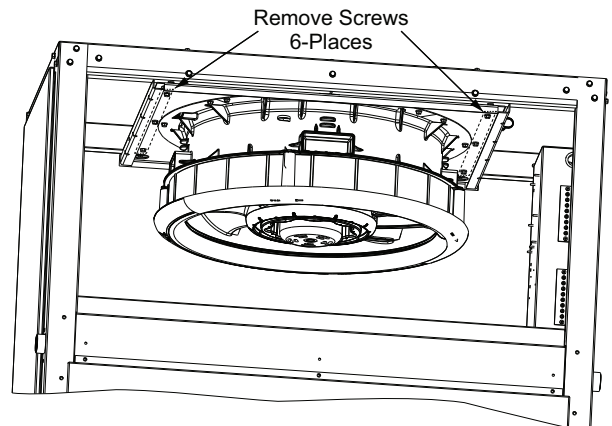

Fig. 47 — Remove Screws from Fan Deck Assembly
3. Remove six screws from the fan deck. See Fig. 47.